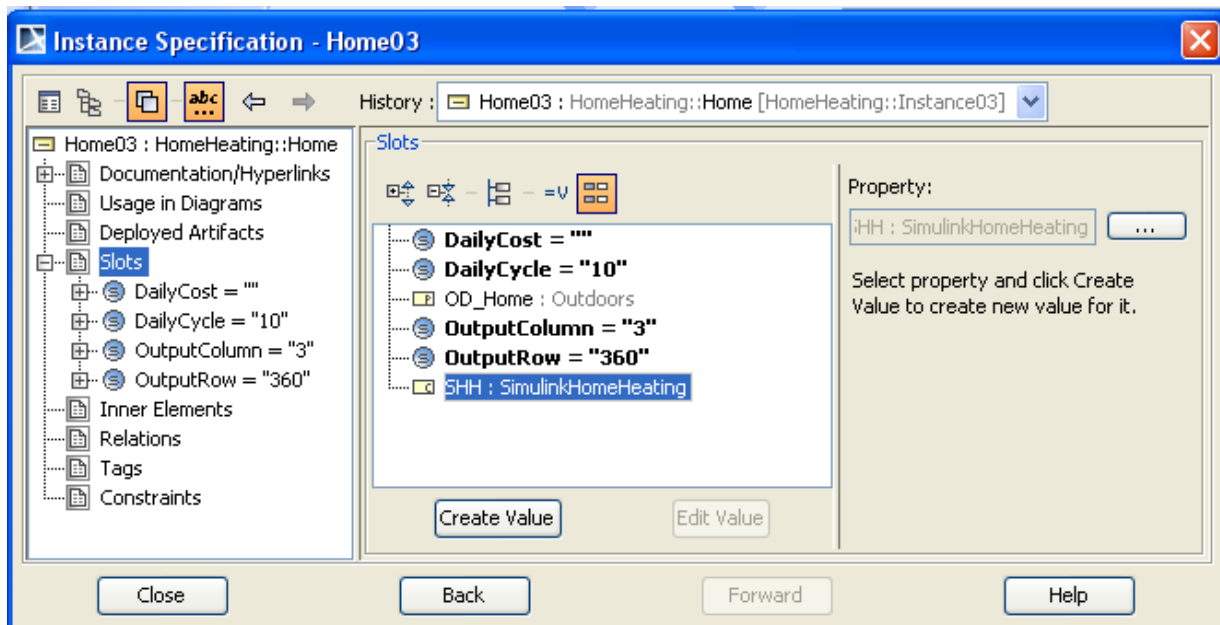

Figure 7.6 Instance Specification for Home03
- i. Open the Instance Specification for Home03 (Figure 7.6)